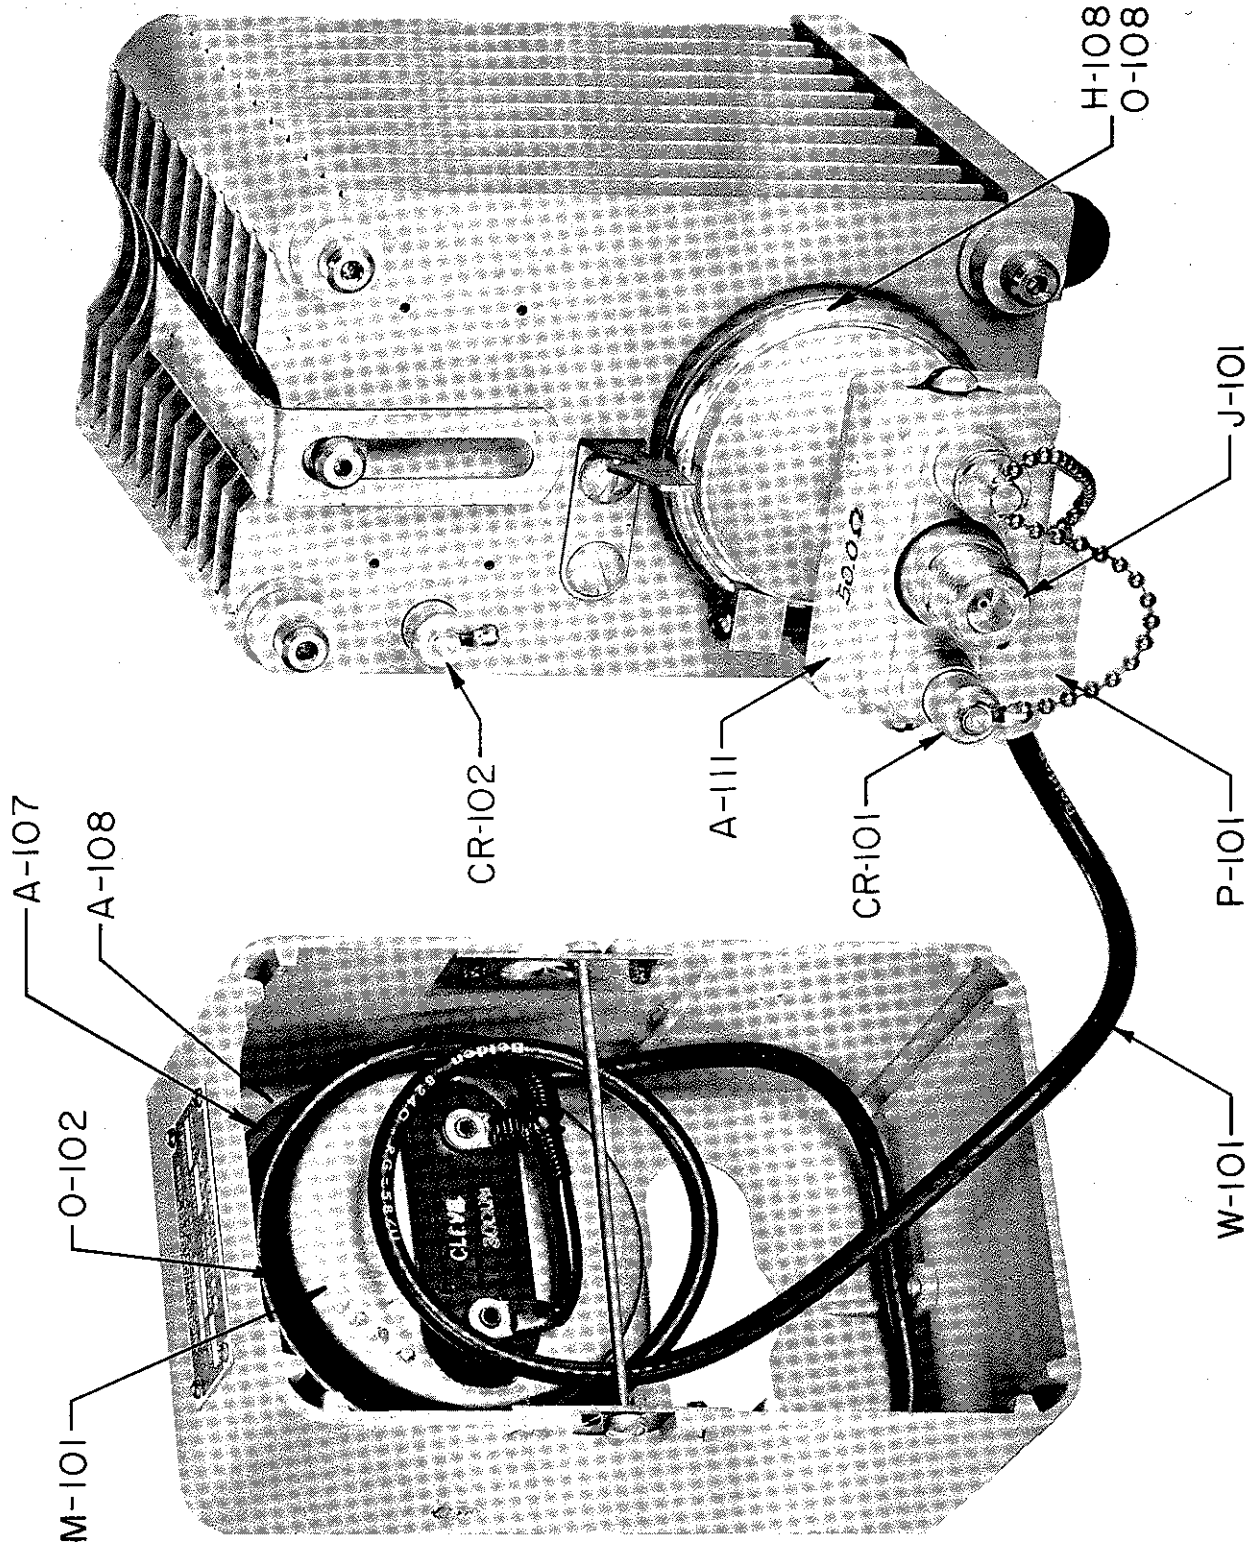

Fig. 1-2. RF Wattmeter Model 61, Meter Box Detached
5. MAJOR COMPONENTS (See Fig. 1-2)
a. Figure 1-2 shows all components of the RF Wattmeter Model 61 with the meter box detached to illustrate the arrangement for remote use of the indicating meter where the meter cannot be conveniently read when attached to the Resistor-Voltmeter unit.
d. The RESISTOR-VOLTMETER unit (See Fig. 1-2) includes the coaxial load resistor R-101 surrounded by a finned radiator structure on which are mounted the spare crystal diode and various hardware items. The load resistor cylinder and conical reducer are OIL